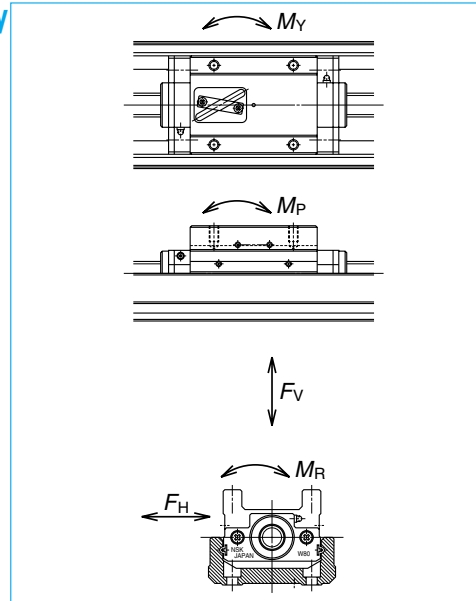

Fig. 1-10 Direction of load
(1) Life of Linear Guide
Study the load to be applied to the linear guide of Monocarrier (Fig. 1-10). The equivalent load ( $F_e$ ) is determined by substituting the load for equation ① (Eq.② : in case of the tightly coupled double slider type).